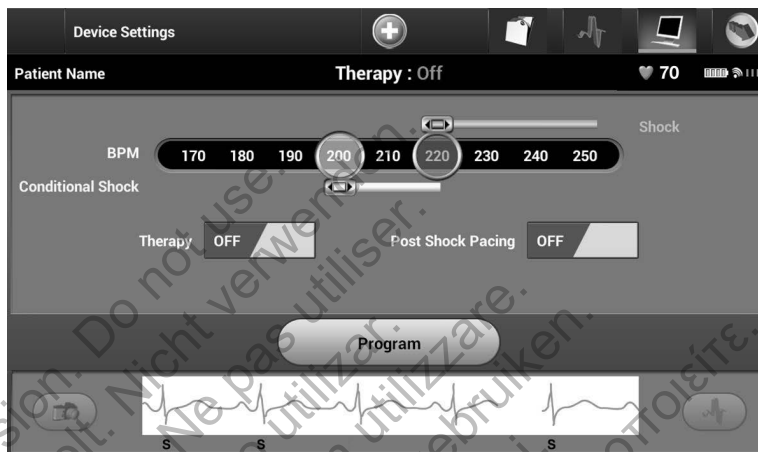

Figure 30: Device Settings screen
3. Select the Device Settings icon on the Navigation Bar to display the Device Settings screen (Figure 30).